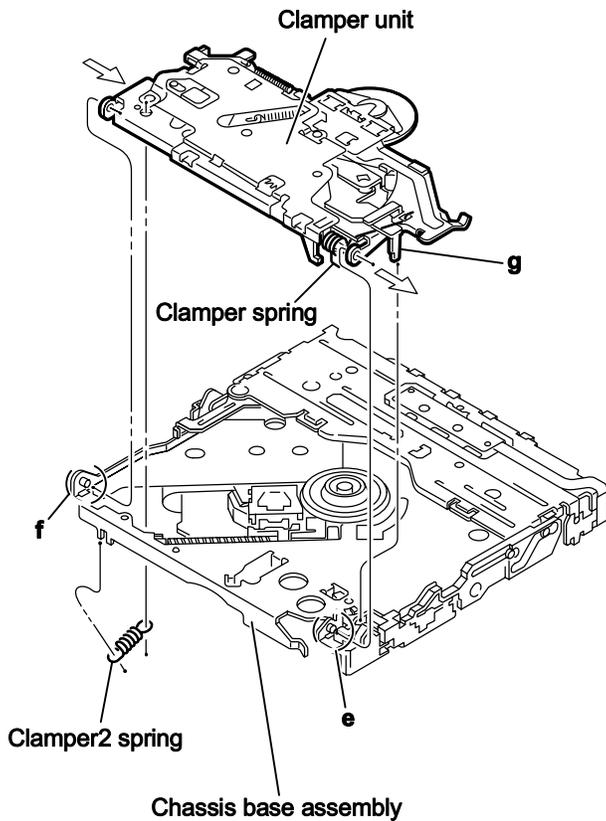

Fig.5
### 3.2.4 Removing the clamber unit (See Fig.5 to 7)
- Remove the clamber2 spring on the bottom of the mechanism section. (See Figs.5.and 6.)
### 3.2.5 Reattaching the clamber unit (See Fig.5 to 9)
- Move the clamber unit to set the side joints **e** and **f** to each boss of the chassis base assembly. Make sure that part **g** is inserted to the notch of the chassis base assembly. (See Figs.5 and 9.)
- Attach the clamber2 spring to the chassis base assembly. (See Figs.5 and 6.)